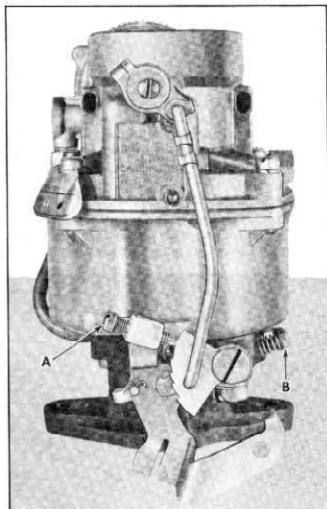

Fig. 104—Idle Speed and Mixture Adjustment
1. With the engine at operating temperature make sure choke is entirely off and linkage is free. Also make sure throttle linkage is free so that throttle stop screw "A" is against the low step on the fast idle cam (fig. 104).
1. With the engine at operating temperature, screw idle adjusting screw "B" in until it seats lightly (fig. 104).